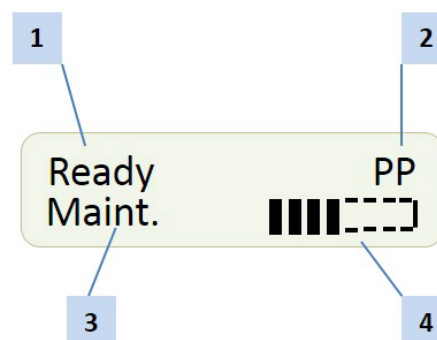

Fig. 5: Display main menu
When you switch ON the MDC, you always start in the “Main Menu”. The display shows “Ready” (position 1, see Fig. 5). With [enter] or [↓] you can reach the submenus. For the information on the main level use [→] or [←]. With [↑] you can find information about the frequency and dispensing time (DT) of setups. All levels are “wrap-around”, i.e. you can circle around between the items with both keys.
In the upper right corner of the display (position 2, see Fig. 5), the displayed letter(s) show(s) in which submenu you are (PP = Pulse Parameters, H = Heater, S = Status, SO = Service-Option).